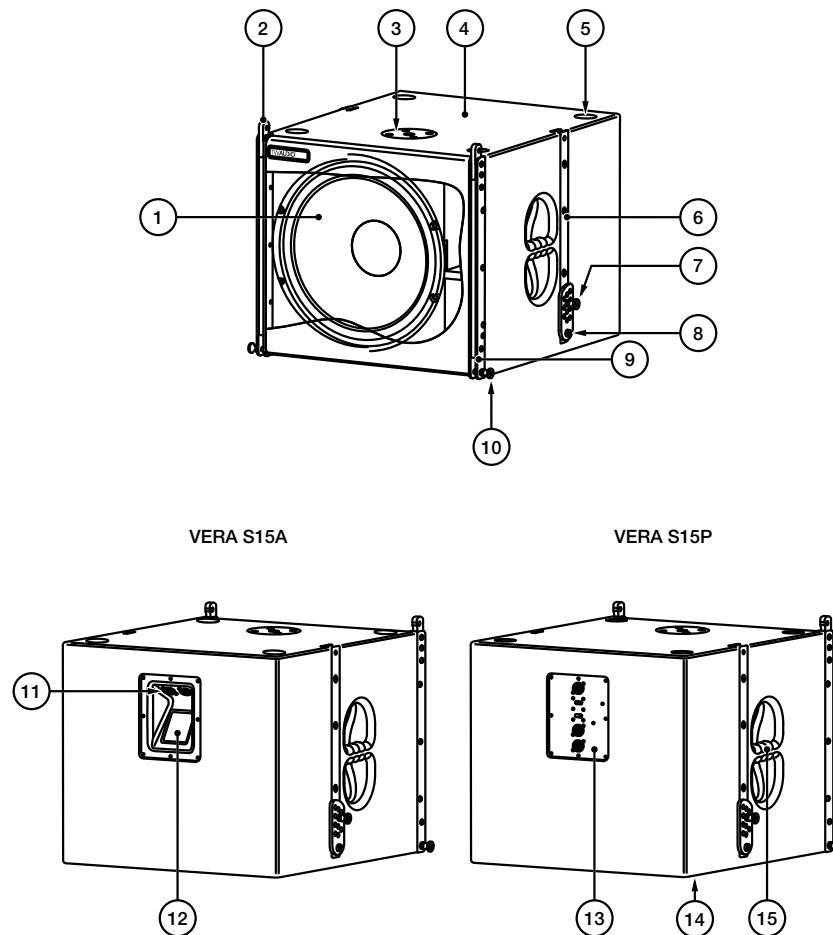

Figure 2.1 - Overview
The VERAS15P model can also be operated in the „PASSIVE 1“ and „PASSIVE 2“ modes. This permits the connection of an additional loudspeaker on the high-pass output or the link output when operating with only one amplifier channel. The installed passive cross-over (pos.13 “Figure 2.1 - Overview” on page 7) has two selector switches, which are described in the following section.
Make sure that the maximum load of 50kg / 110lbs for the M20 pole mount flange is not exceeded! See figure 2.1 – Item 10.
Please note that the M20 pole mount flange is not designed for side loads! See figure 2.1 – Item 10.
Please note that only centered loads should be placed on the M20 cabinet flange – see figure 2.1 – Item 10.